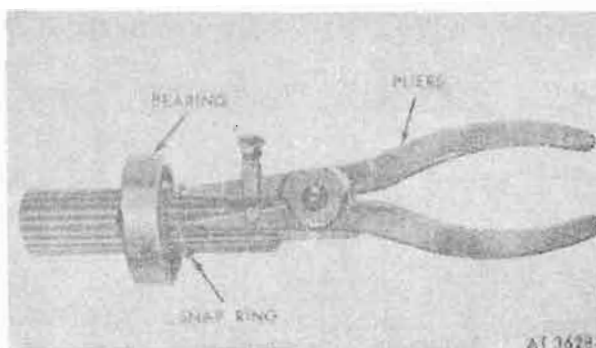

Figure 8-61. Removing bearing from output shaft.
k. Using snapping pliers, remove bearing-retaining snapping from output shaft (fig. 8-61).